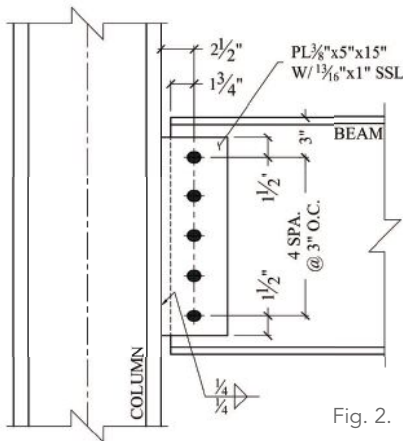
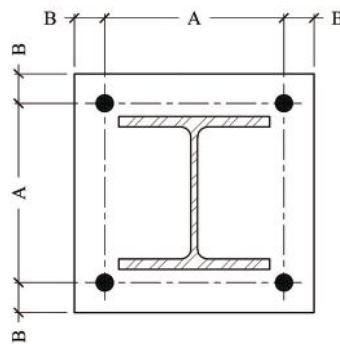

Fig. 2.
Fig. 3.
**4. Keep it symmetric.** The single-plate shear connection, if symmetrical, can be installed upside-down or opposite-hand with no effect (see Figures 2 and 3 for examples). The small increase in material will offset possible fabrication errors, and the symmetrical pattern helps to avoid base plate-to-column errors and anchor rod placement errors. Figure 3 shows a base plate with a doubly symmetrical anchor rod pattern.